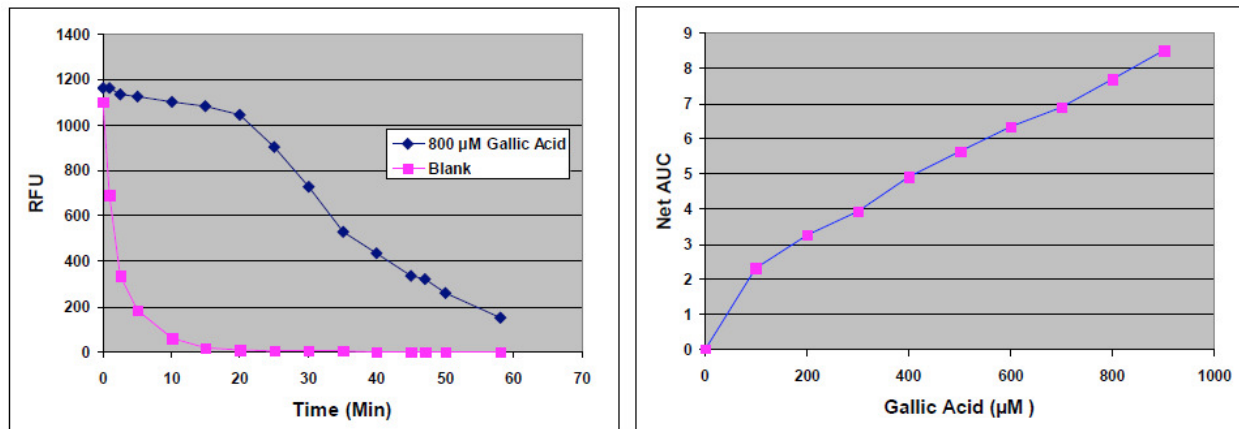

Figure 1: HORAC Activity Assay Calibration Curve.
3. Graph the Net AUC on the y-axis against the Gallic Acid Antioxidant Calibrator concentration on the x-axis (see Figure 1)